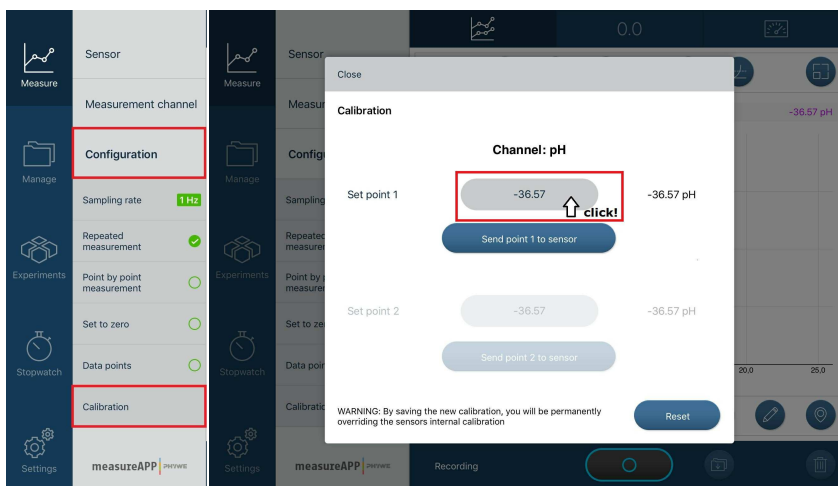

Fig. 4
1. Go to "Configuration" (Fig. 4)
2. Go to (scroll down if necessary) "Calibration" (Fig. 4)